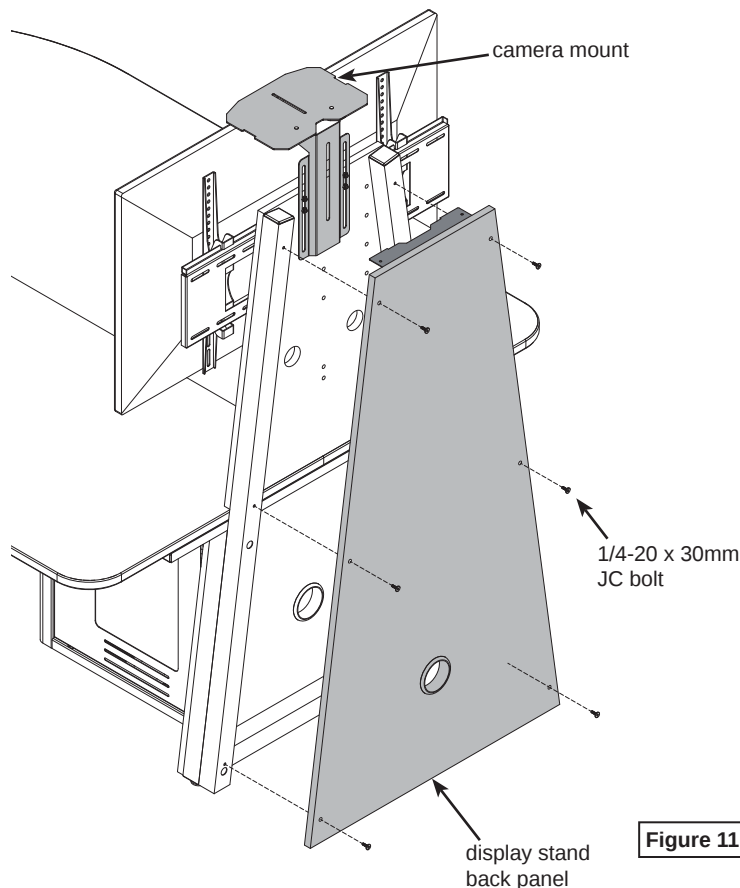

Figure 11
- L. After all electrical connections are made, re-attach the display stand back panel with the (6) previously removed 1/4-20 x 30mm JC bolts and tighten securely. **Figure 11**.